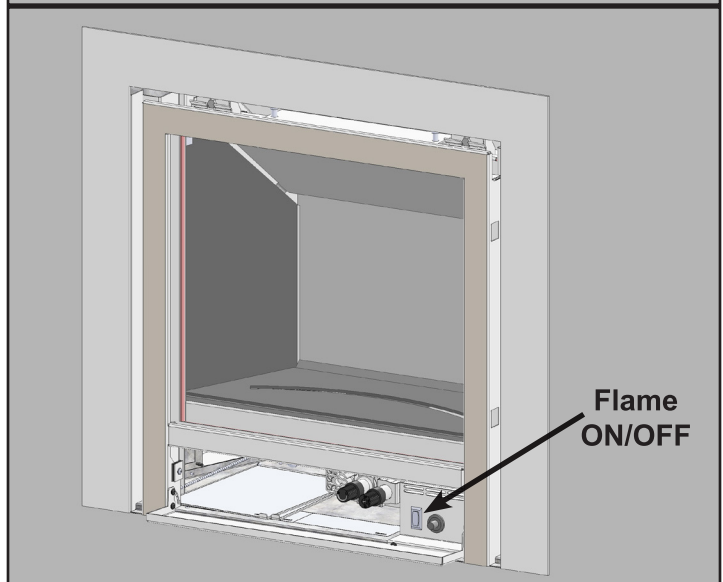

Fig.3
3. Flip the flame ON/OFF switch, located beside the igniter to ON. (**Fig.3**)